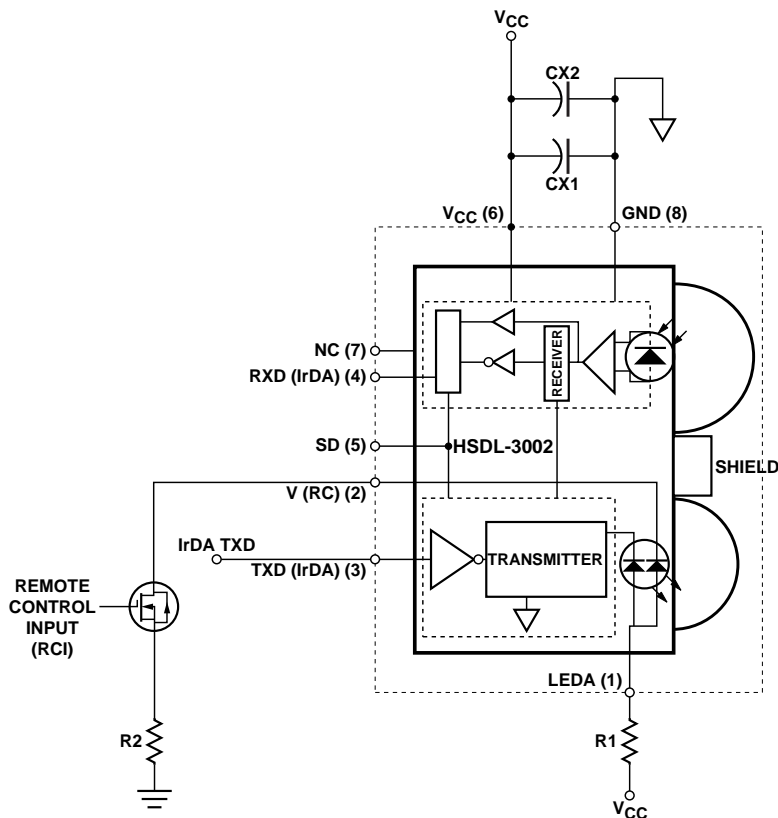

Figure 1. Functional block diagram of HSDL-3002.
3. In environment with noisy power supplies, supply rejection can be enhanced by including CX2 as shown in Figure 1.